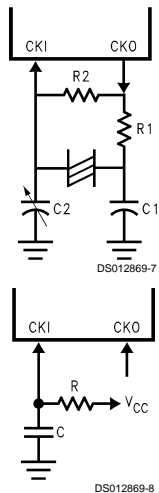

FIGURE 7. Crystal and R/C Oscillator Diagrams
*Figure 7* shows the Crystal and R/C Oscillator diagrams.